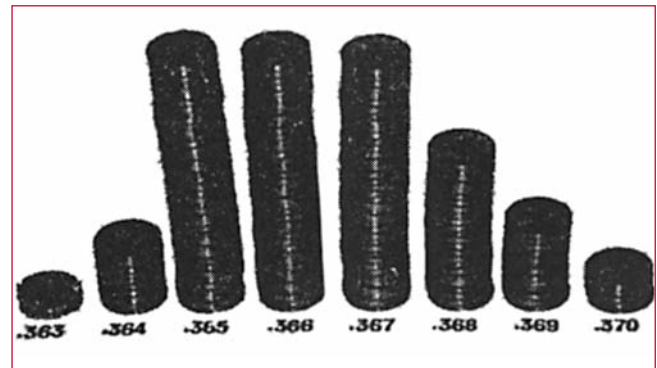

Figure 5, Same Diameter
2. The bores must be close to the same diameter prior to honing (see Figure 5).